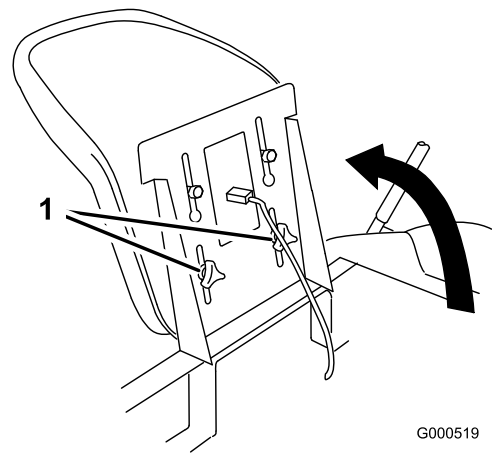

Figure 20
1. Raise the seat and loosen the adjustment knobs enough to move the seat (Figure 20).